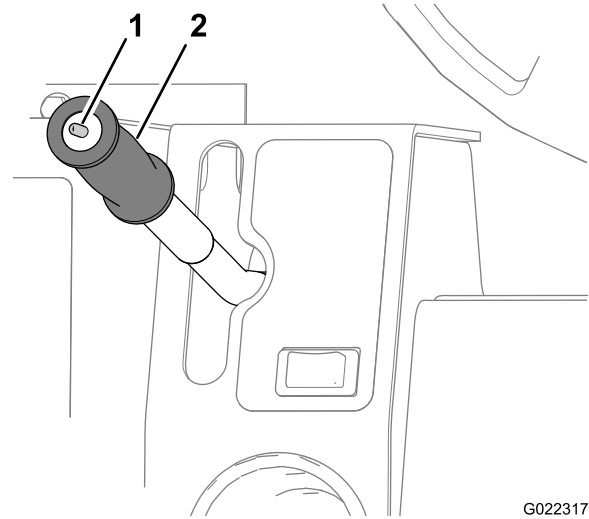

Figure 26
This toggle switch (Figure 26) controls the mode for the hydraulic motor and has 2 positions: Transport and Work. Select the desired operating position. Push the switch to the rear (toward you) to set to Work speed (W), or push the switch forward (away from you) to set to Transport speed (T).